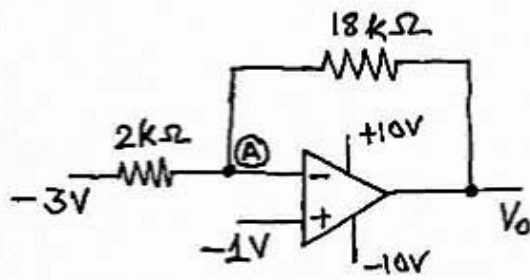

FIG. P2(a)
- Q2(a) For the circuit shown in Fig P2(a), find out the voltage at node A. (4)
- (b) Explain the operation of one GIC. How can it be used to synthesize one inductor? (6)